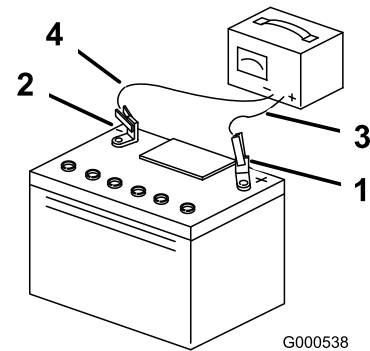

Figure 3
4. Connect a 3 to 4 A battery charger to the battery posts. Charge the battery at a rate of 3 to 4 A for 4 to 8 hours (Figure 3).